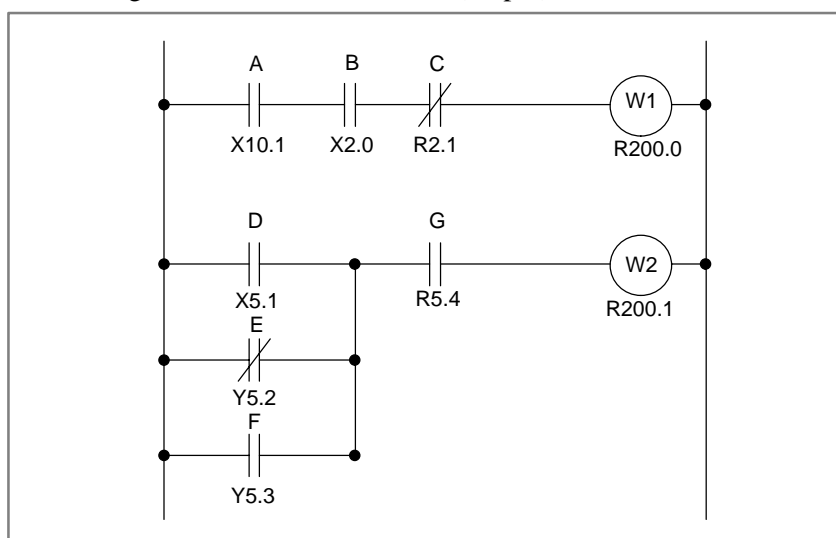

Fig. 4.1.1 Ladder diagram
(1) Format
- (2) Reads the status (1 or 0) of a signal at a specified address and sets it in ST0.
- (3) Is used when beginning coding with contact A (\neg —). See the ladder diagram of Fig. 4.1.1 and entries in the coding sheet of Table 4.1.1 for an example of using the RD instruction.
- (4) The signal read by the RD instruction may be any signal entered as the logical condition for one coil (output).
Table 4.1.1 Coding for Fig. 4.1.1
(2) Induces a logical product.
(3) See Fig. 4.1.1 and Table 4.1.1 for an example of using the AND instruction.
(2) Inverts the status of a signal at a specified address and induces a logical product.
(3) See Fig. 4.1.1 and Table 4.1.1 for an example of using the AND.NOT instruction.
(2) Induces a logical sum.
(3) See Fig. 4.1.1 and Table 4.1.1 for an example of using the OR instruction.